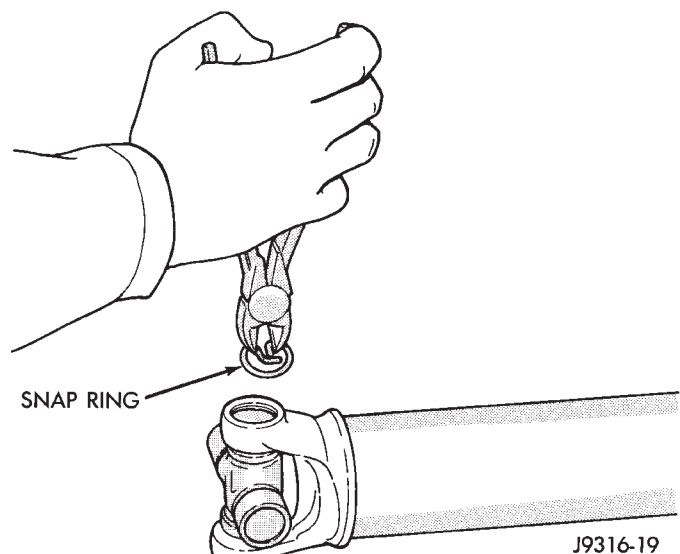

Fig. 15 Remove Snap Ring
- (1) Remove the propeller shaft.
- (2) Using a soft drift, tap the outside of the bearing cap assembly to loosen snap ring.
- (3) Remove snap rings from both sides of yoke (Fig. 15).